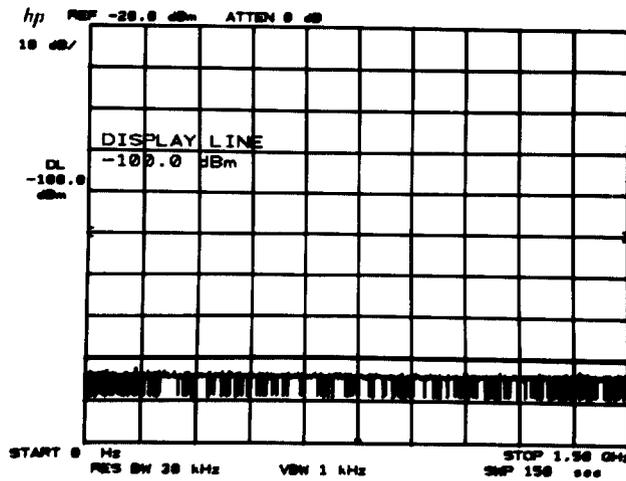

FIGURE 27. RESIDUAL RESPONSES MEASUREMENT
7. Press TRACE A **CLEAR-WRITE**, SWEEP **SINGLE**. Wait for completion of the sweep (see Figure 27).